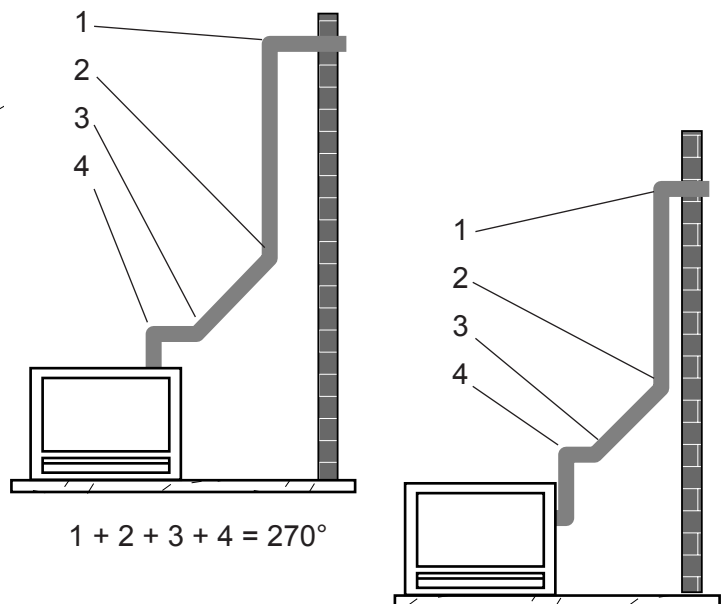

Figure 30 - Maximum Elbow Usage
- The maximum number of 45° elbows permitted per side wall installation is two (2). These elbows can be installed in either the vertical or horizontal run.
- The maximum number of elbow degrees in a system is 270°. See Figure 30.